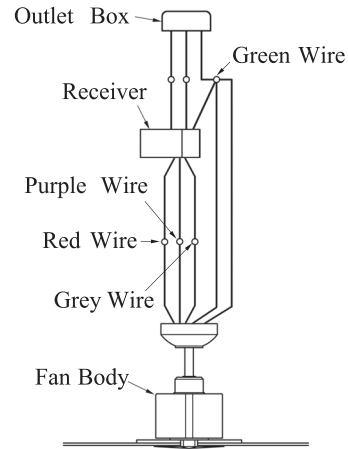

FIG.8
2. Connect the red wire from receiver to the red wire from fan with wire nut. Connect the purple wire from receiver to the purple wire from fan with wire nut. Connect the grey wire from receiver to the grey wire from fan with wire nut. Connect the green wire or bare copper wire from outlet box to green wire from receiver, hanger bracket and downrod ball with wire nut. (See fig. 8)